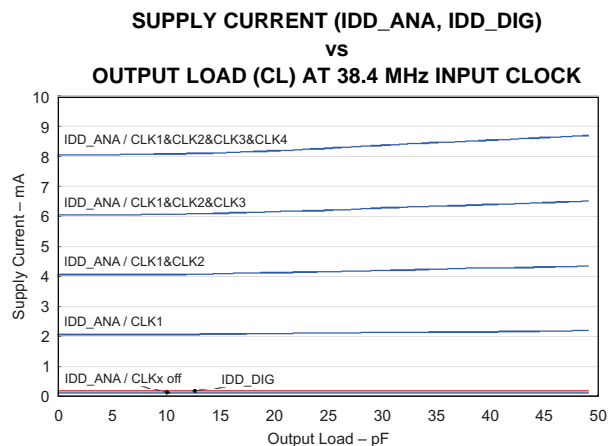

Figure 8.
(1) The total current consumption when no output is active is calculated by $I_{DD_ANA}(\text{off}) + I_{DD_DIG}$.
(2) For $C_L = 30\text{ pF}$, the typical current for one output is 2.2 mA (see Figure 8).
(3) The I^2C standard specifies a maximum C_I of 10 pF.